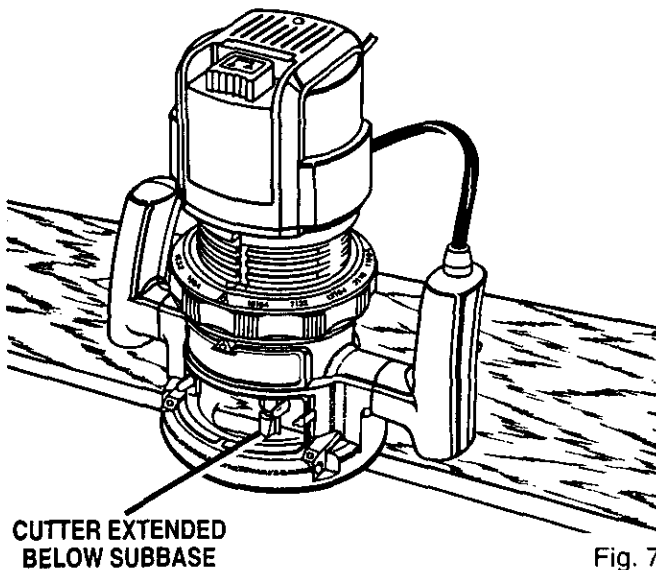

Fig. 7
- Position your router so that the cutter can extend below the subbase for desired depth setting. See Figure 7.